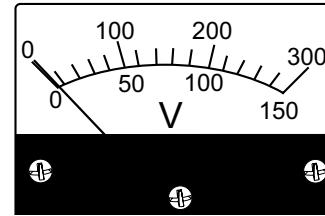

Figure 88. AC Voltmeter (Zero Volts)
- Verify that the AC voltmeter (Figure 88) on the welder-generator reads zero volts.